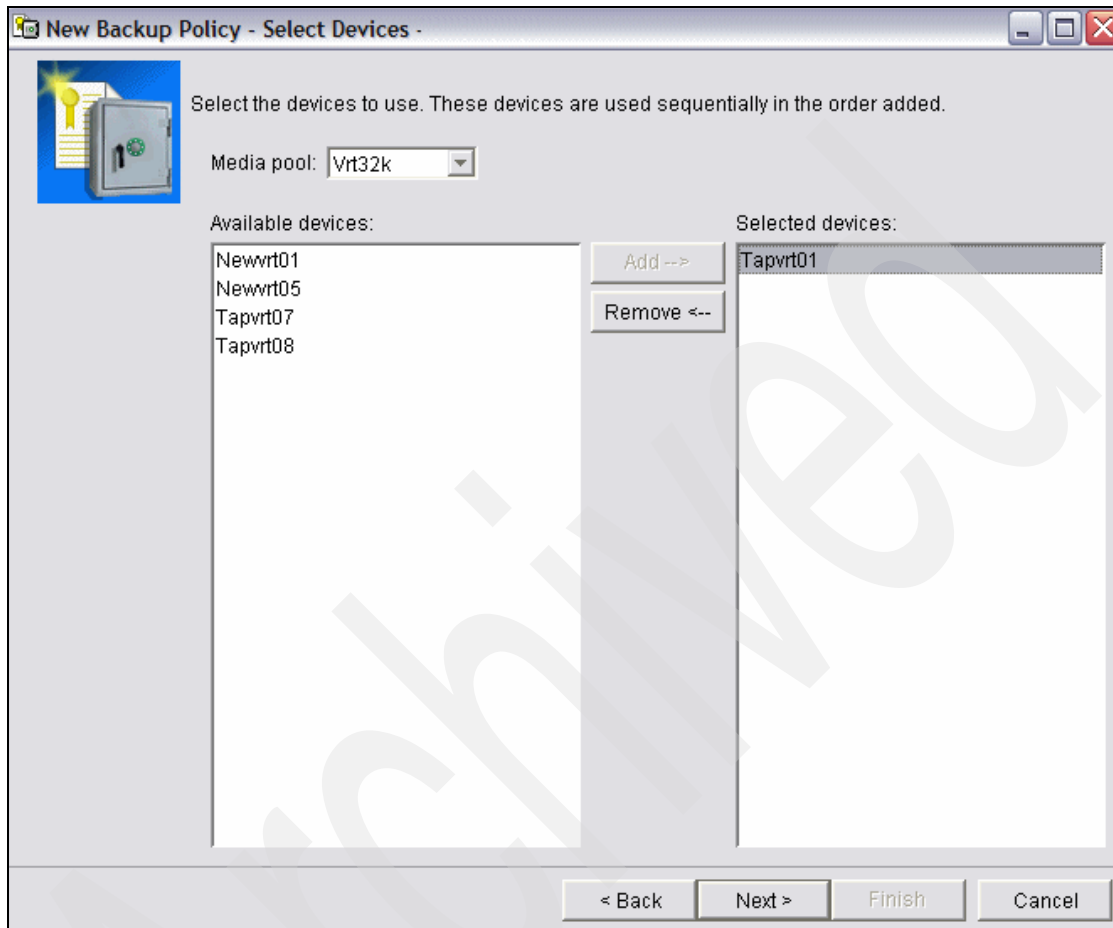

Figure 7-26 Select devices
2. Click **Next**, as shown in Figure 7-26.